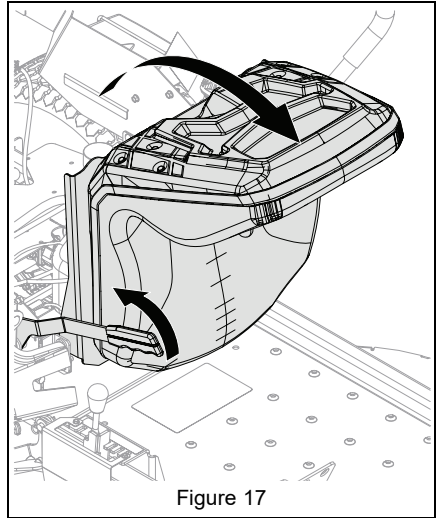

Figure 17
7. Rotate seat forward. See Figure 17.